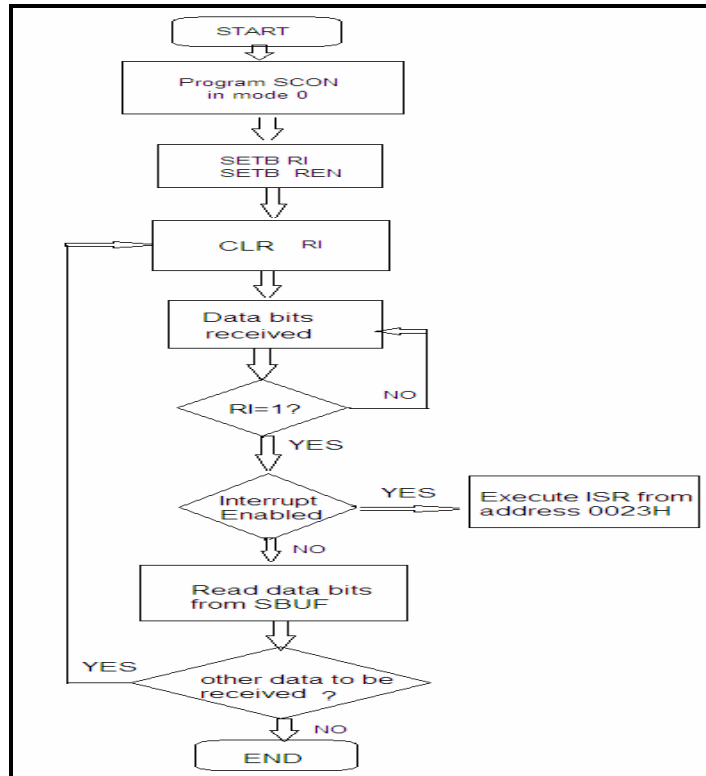

Fig. 2-8-8 Control flow of serial port mode 0 reception
- (3) Receive: See Fig. 2-8-8.